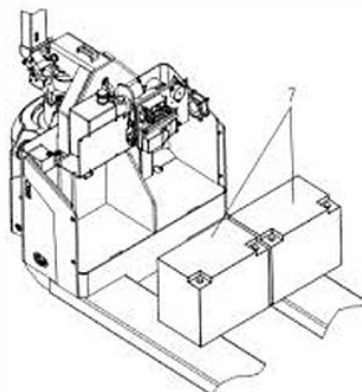

Fig.10
- (Fig 10) Remove old battery7, assemble the new battery according to the opposite steps ;